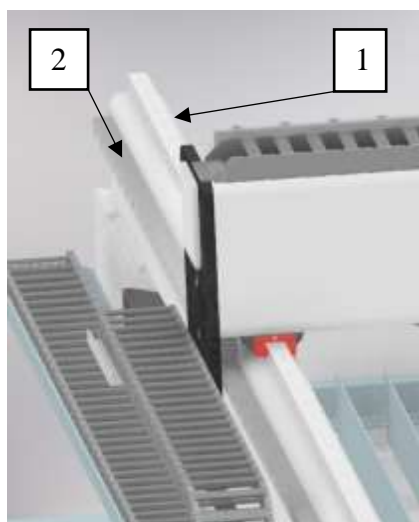

Fig.55: X-axis
2. Grease both sides of the X-axis linear guides (Fig. 55 /1) and racks (Fig. 55 /2) with a light machine grease using a lint free cloth.